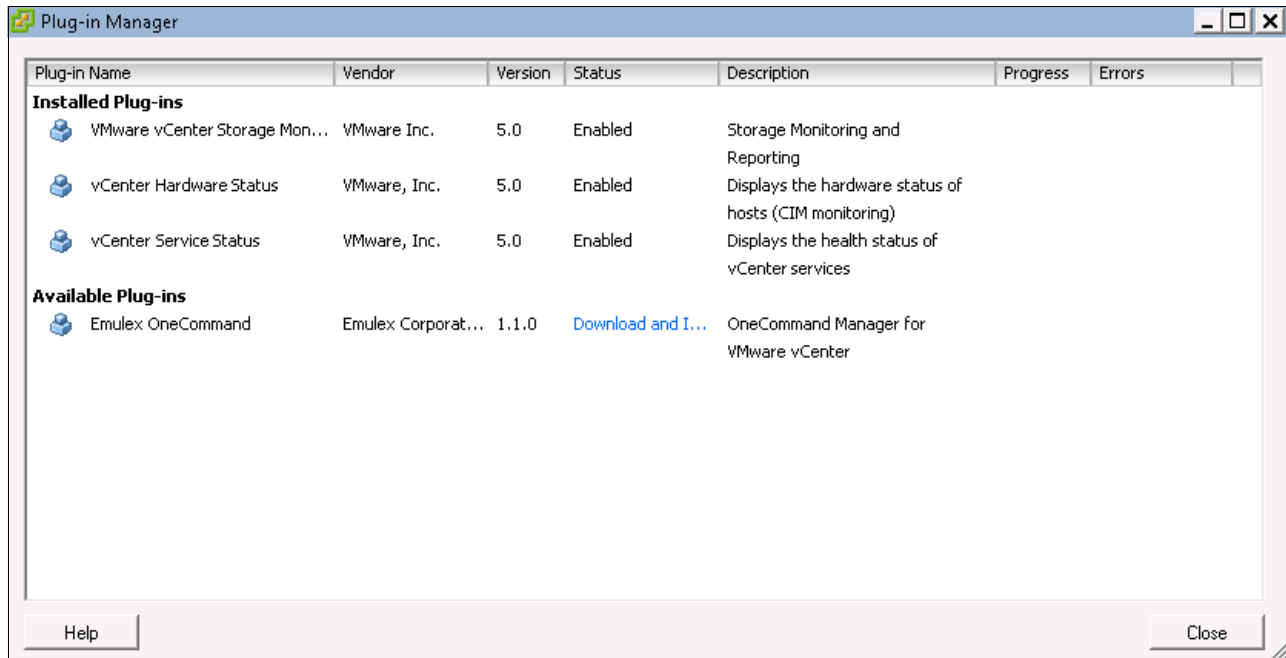

Figure 7-49 Install the Emulex OneCommand plug-in
2. In the Plug-in Manager window (Figure 7-49), under Available Plug-ins, where you see the Emulex OneCommand, click **Download and Install**.